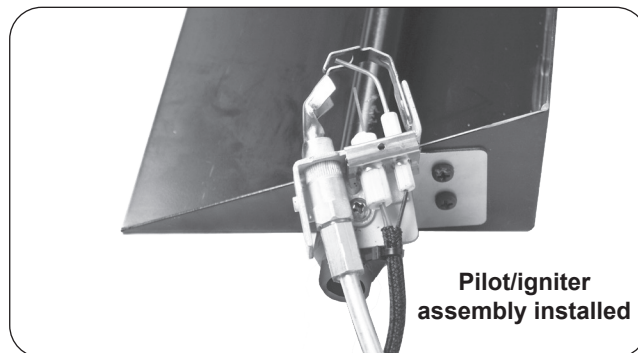

Fig. 7-1
2. Remove the two existing screws on the right side of the burner, align the pilot in place, and fasten using the provided screws. See Fig. 7-1. **Check to be certain the pilot hood and probes are situated above the edge of the pan. Adjust if necessary.**